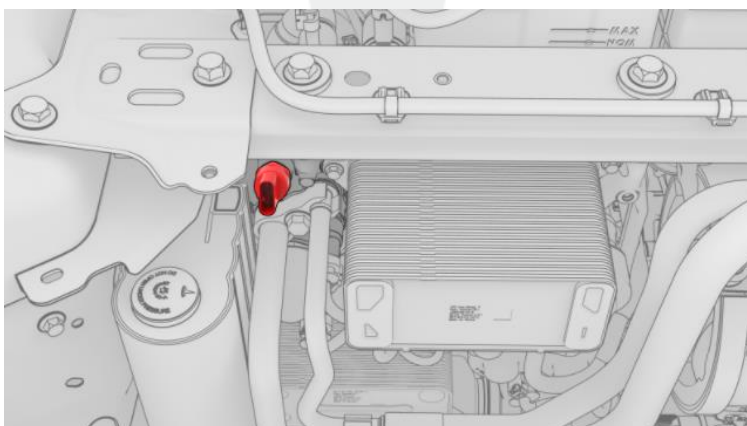

Figure 6
8. Use the HVAC socket kit special tool to remove the low pressure P/T sensor from the Supermanifold (Figure 6).
15. Hand-install the new low pressure P/T sensor (brown connector) into the Supermanifold, and then use the HVAC socket kit special tool to tighten (torque 9 Nm) (Figure 6).